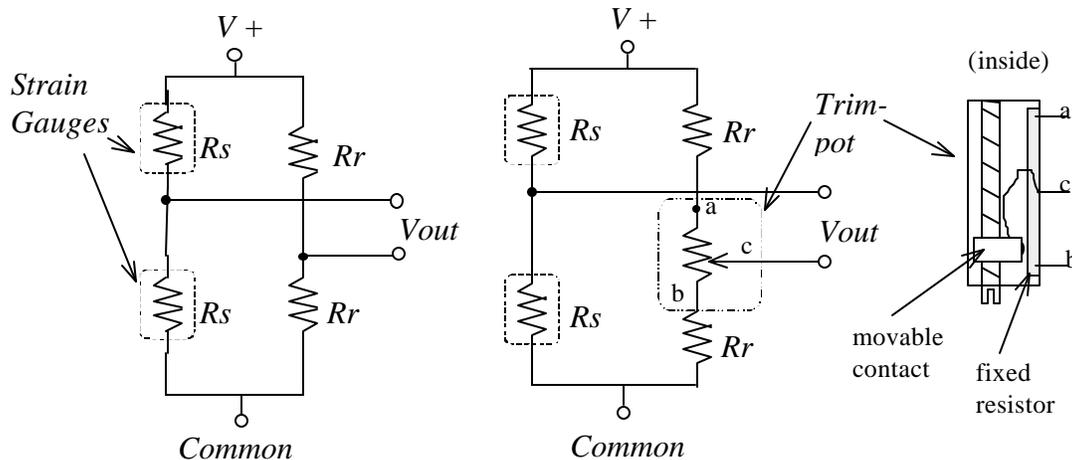

Figure 4 Wheatstone bridge (left) and Wheatstone bridge with offset adjustment (right). The construction of the trimpot (variable resistor) is also shown.
- Obtain a board with a cantilevered **strain-gauge bracket** from the instructor. These strain gauges convert mechanical strain into a proportional change in resistance. Here, we're going to incorporate the strain gauges into a circuit called a **Wheatstone bridge** as shown in Figure 4. Basically, a Wheatstone bridge uses four resistors, which are grouped into two pairs and connected to a voltage supply. The resistors in each pair are identical in value to each other, but not necessarily equal to the resistors in the other pair. For example, one pair might consist of two 10k resistors, and the other two might be 20k resistors. Even though the resistance of one pair is double in value of that of the other, the voltage, V_{out} at the center nodes of each pair is the same. Can you see why?
- Construct the Wheatstone bridge with offset adjustment shown in Figure 4 using the strain gauged cantilever beam, a multi-turn, $1\text{ k}\Omega$ trimpot and two $10\text{ k}\Omega$ resistors on the breadboard. There are 3 leads coming from the strain gauge fixture. One of the three connects to two wires coming from the strain gauges. V_{out} will be measured between this lead and the wiper of the trim pot as shown in Figure 4.